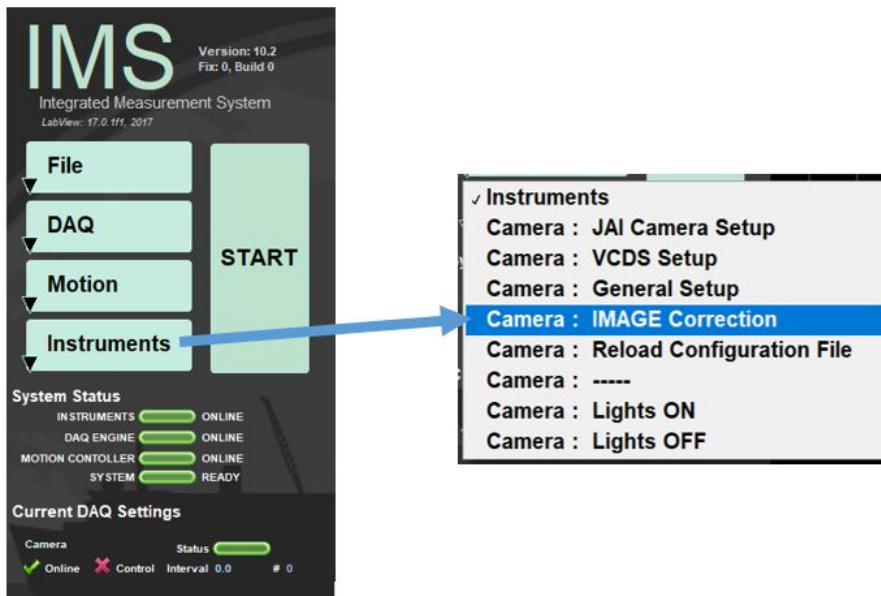

Figure 42. Selecting Image Correction Window
6. Close out of the Sample Information Window. In the IMS start area go to **Instruments > JPEG Correction** (Figure 42)